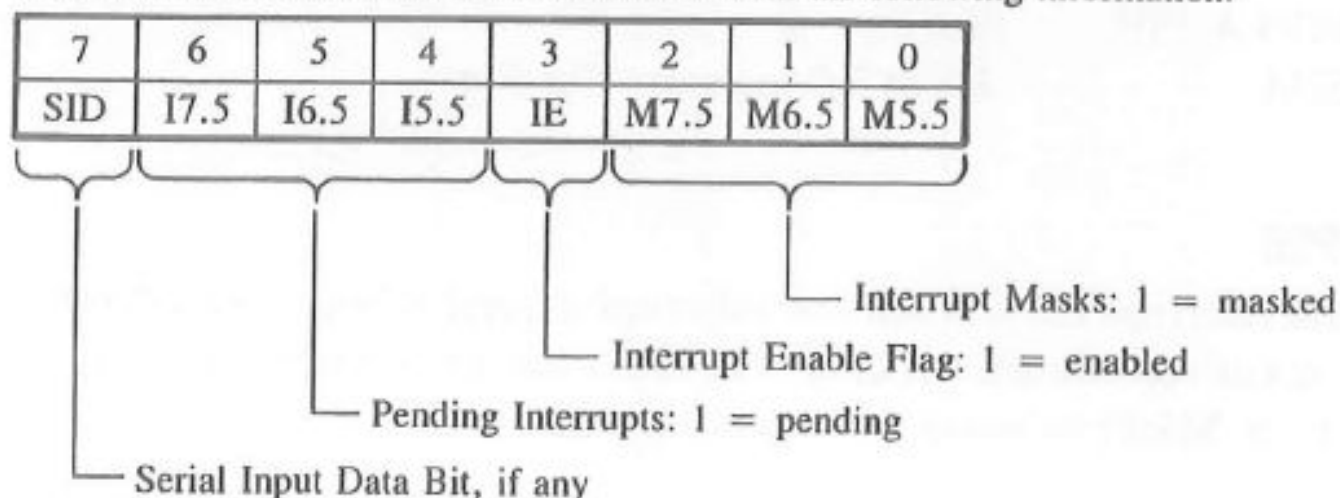

FIGURE 12.7
- To read interrupt masks. This instruction loads the accumulator with 8 bits indicating the current status of the interrupt masks (Figure 12.7).
- To identify pending interrupts. Bits D_4 , D_5 , and D_6 (Figure 12.7) identify the pending interrupts.
- To receive serial data. Bit D_7 (Figure 12.7) is used to receive serial data.